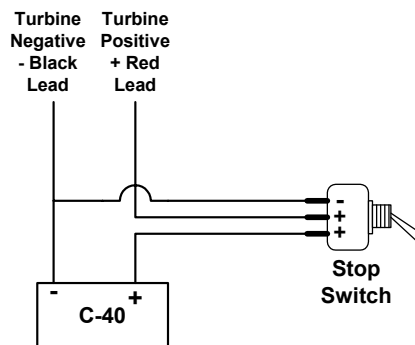

Figure 3 Stop Switch Wiring
- When performing periodic inspections, or at any time when you must approach the path of the blades, shut down the turbine to stop the blades spinning, through the use of a stop switch. Alternatively, disconnect the power leads from the C-40 external regulator, to avoid electrical shock and connect the wind turbine output leads together to stop (*slow down*) the blades from rotating. Please refer to Figure 3 on page 11 on how to install a stop switch in your system.
A stop switch must be used with your AIR Industrial to provide a convenient method for shutting down the turbine. A 50-amp single-pole double-throw switch will work as a stop switch for most applications. These switches are available from Southwest Windpower and should be wired as shown in Figure 3. The switch disconnects the battery and then shorts the turbine causing the turbine to stop spinning (*in high winds the blades will spin slowly*). Shorting the turbine will not cause any damage or additional wear. This type of switch should not be used in applications where a code compliant switch is necessary, or for 12V turbines used in very high wind applications. **NOTE:** The center post must be positive from the turbine. Outside posts can be swapped as either positive or negative.